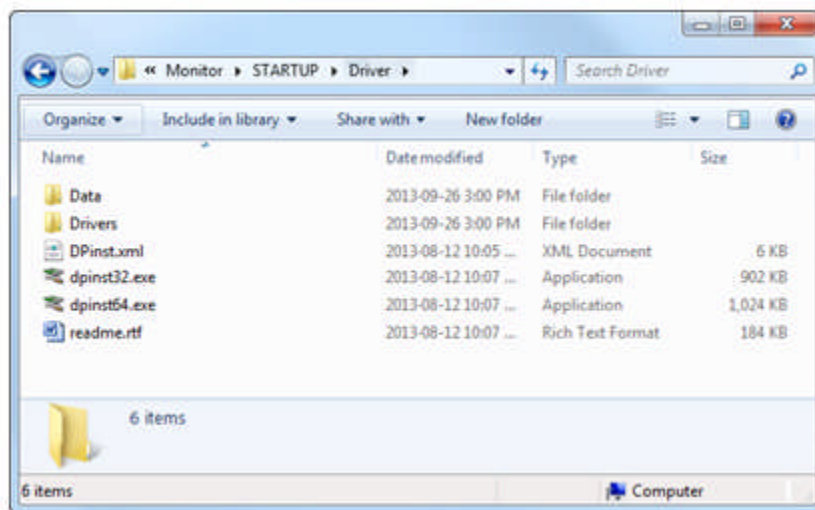

Figure 6: MonitorTM Driver Folder
- 1) With MonitorTM installed, open Windows explorer to "Driveletter:\GBS-PWC\bin\Monitor\STARTUP\Driver". Refer to Figure 6.
- 2) Depending on your operating system, double-click dpinst32.exe for 32-bit version of Windows or dpinst64.exe for 64-bit version of Windows. Refer to Figure 6.